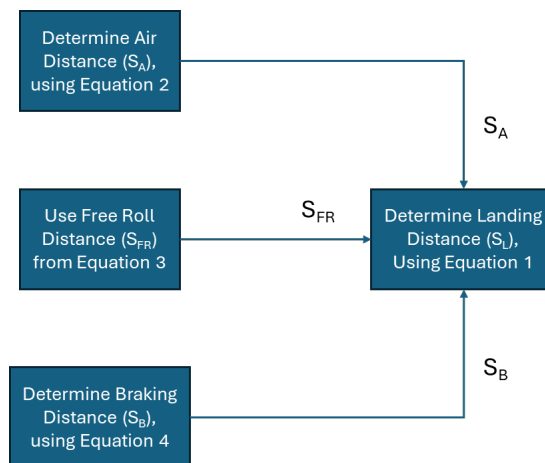
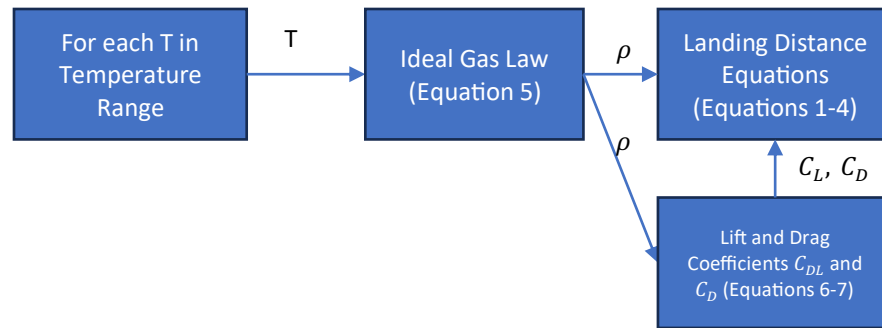

Figure 1. Components supporting the overall Landing Distance equation
Figure 2. Components supporting Q4a
4. Create the following series of plots. You will use the landing distance equation (Equation 1), also described in Figure 1. Use values from ISA standards (Table 1), where appropriate.
- Use the ideal gas law (Equation 5) and the landing distance equations (Equations 1-4); see Figure 2 (which doesn't include terms that are constant through the process and don't need to be calculate)Figure 1